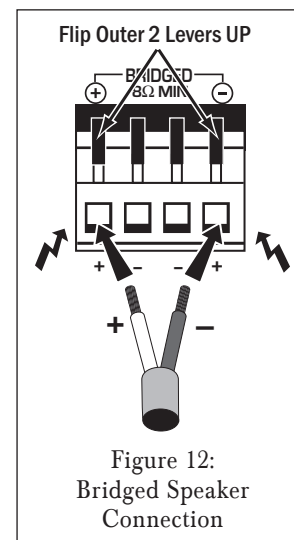

Figure 12:
- Insert the single speaker's "+" and "-" speaker leads into the two outer terminal openings on the 4-wire speaker connector. Observe the polarity shown in the chassis markings *above* the connector (see Figure 12).